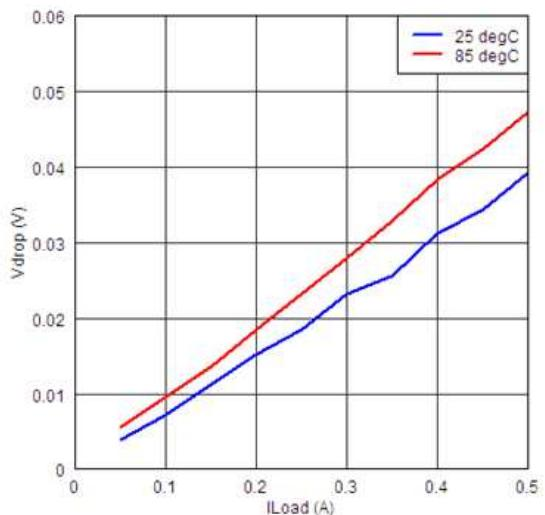

Figure 16. Vdrop vs IL; VGS\_Q1 = -1.2V
Where, IDQ1 is the DC current flowing through the transistor Q1. Refer to the ELECTRICAL CHARACTERISTICS Table and the Figure 16 through Figure 22 to estimate RQ1(ON) for various values of VGSQ1.